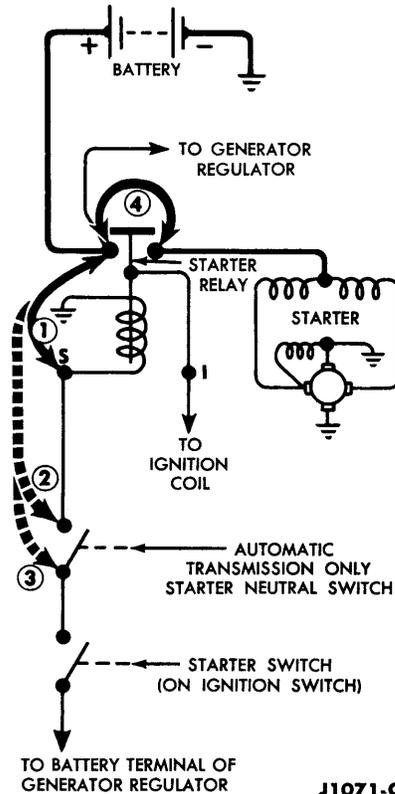

FIG. 2—Starting Circuit Test
<p>ENGINE WILL NOT CRANK AND STARTER RELAY DOES NOT CLICK (Continued)</p>	<p>CHECK STARTER RELAY</p> <ol style="list-style-type: none"> 1. Disconnect and ground the high tension lead from the spark coil so that the engine cannot start. 2. With a fully charged battery, operate the starter to crank the engine. If the engine will not crank and the relay does not click, connect a jumper lead from the battery terminal of the relay to the starter switch terminal of the relay (Fig. 2, connection ①). If the engine does not crank, the starter relay is probably defective. 3. If the engine cranks in Step 2, connect a jumper lead from the battery terminal of the relay to the relay side of the neutral switch (Fig. 2, connection ②). If the engine does not crank, the wire or a connection between the neutral switch and the relay is loose or broken. 4. If the engine cranks in Step 3, connect the jumper lead from the battery terminal of the relay to the ignition switch side of the neutral switch (Fig. 2, leads ③). If the engine does not crank, the neutral switch is out of adjustment or defective. 5. If the engine cranks in the preceding steps, there are 3 possible defects. <ul style="list-style-type: none"> The wire from the battery terminal of the regulator to the ignition switch is loose or broken. The ignition switch starter terminal is defective. The wire from the starter switch to the automatic transmission neutral switch or to the starter relay is loose or broken.
<p>ENGINE WILL NOT CRANK BUT STARTER RELAY CLICKS</p>	<p>If the relay clicks when the ignition switch is operated, connect a heavy jumper from the relay battery terminal to the relay starter motor terminal (Fig. 2, connection ④). If the engine cranks, replace the relay. If the engine does not crank, observe the spark when connecting and disconnecting the jumper. If there is a heavy spark, see Check Engine and Starter Drive below. If the spark is weak or if there is no spark at all, proceed as follows:</p> <p>CHECK CABLES AND CONNECTIONS</p> <p>If the spark at the relay is weak when the jumper is connected, inspect the battery starter cables for corrosion and broken conductors. Check the ground cable to see if it is broken or badly corroded. Inspect all cable connections. Clean and tighten them if necessary. Replace any broken or frayed cables. If the engine still will not crank, the trouble is in the starter, and it must be repaired or replaced.</p> <p>CHECK ENGINE AND STARTER DRIVE</p> <p>If a heavy spark is obtained when the jumper wire is connected, remove all the spark plugs, and attempt to crank the engine with the starter.</p> <p>If the engine cranks with the spark plugs removed, water has probably leaked into the cylinders causing a hydrostatic lock. The cylinder heads must be removed, and the cause of internal coolant leakage eliminated.</p> <p>If the engine will not crank, loosen the starter mounting bolts to free the starter pinion.</p> <p>If the starter drive is locked, remove the starter from the engine, and examine the starter drive pinion for burred or worn teeth. Examine the teeth on the flywheel ring gear for burrs and wear. Replace the pinion or the flywheel ring gear if they are worn or damaged.</p> <p>If the starter drive is not locked, remove the starter from the engine, and perform the no-load current test. The starter should run freely. Compare the reading obtained from the ammeter with the no-load current draw specification for the starter.</p> <p>If the current reading at no load speed is below specifications, the starter has high resistance and should be repaired.</p> <p>If the current reading is above normal, and the starter is running</p>